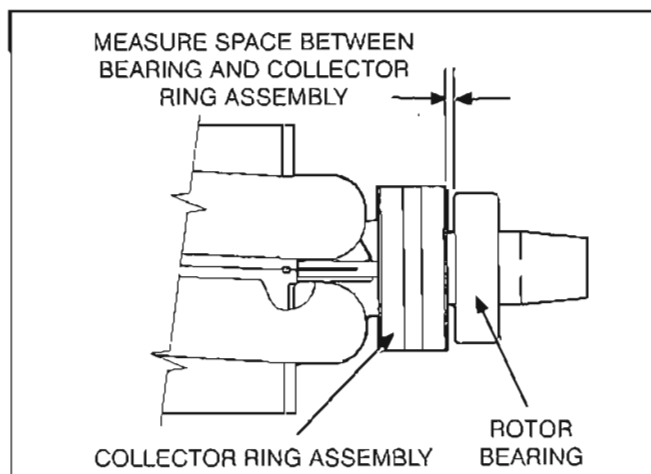

FIGURE 9-11. ROTOR BEARING SPACING
1. Measure and record the distance between the bearing and the collector ring assembly, (referenced later for reassembling). See Figure 9-11.